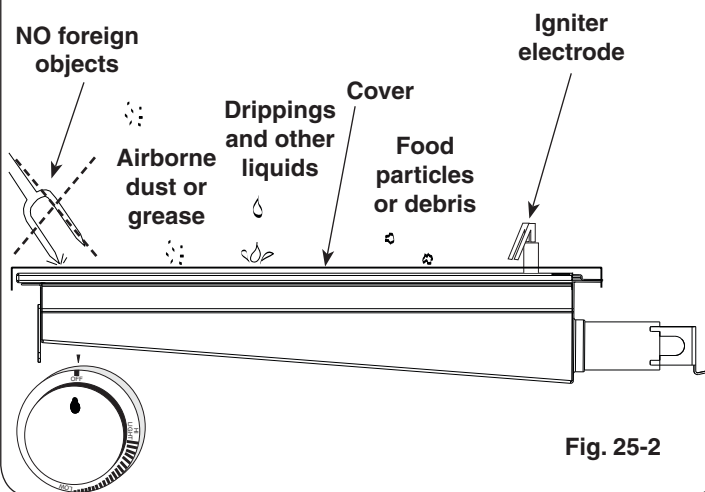

Fig. 25-2
- When not in use, **always** cover the infrared burner with the stainless-steel cover. This protects the burner from drippings (from other cooking), water, airborne particles, and foreign objects (Fig. 25-2).
- Do not strike or scrape the ceramic portion of the burner as it may chip, crack, or break (Fig. 25-2).